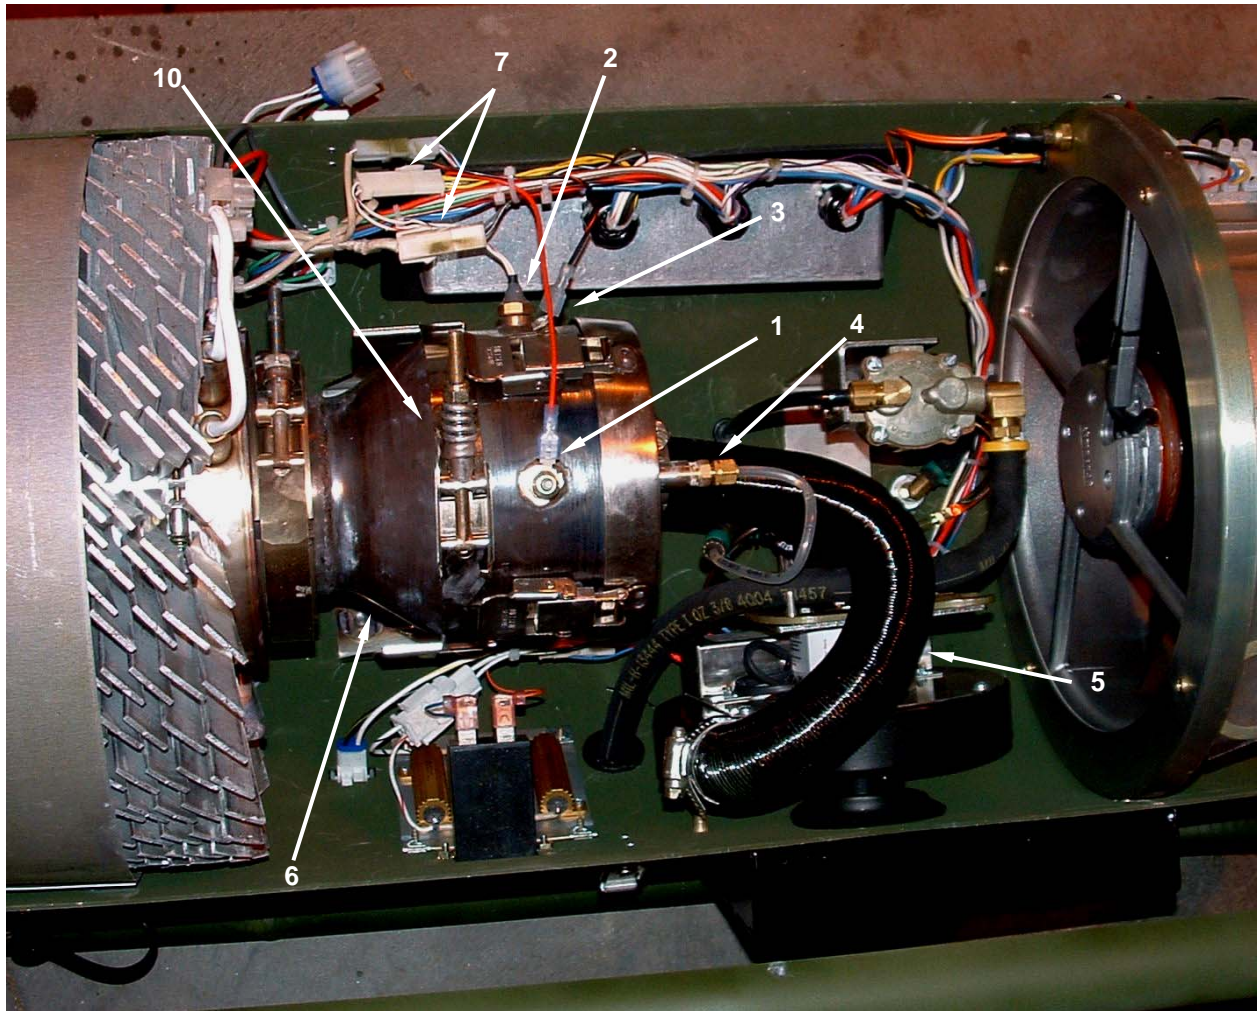

Figure 5. Replace Fin Temperature Sensor – Disassembly.
3. Tag and disconnect the glow plug (**Figure 5, Item 1**), flame sensor (**Figure 5, Item 2**), ground wire (**Figure 5, Item 3**), fuel line (**Figure 5, Item 4**), and combustion air blower duct (**Figure 5, Item 5**) from the burner assembly (**Figure 5, Item 6**).
4. Tag and disconnect the two TEG electrical connectors (**Figure 5, Items 7**).
5. Tag and disconnect the two wires (**Figure 5, Item 8**) going into the modular connector (**Figure 2, Item 9**) on the side of the TEG by loosening the two bottom screws. Do not loosen the top screws for the wires that enter the interior of the TEG.
6. Loosen the clamp (**Figure 5, Item 10**) retaining the burner assembly (**Figure 5, Item 6**) and lift the assembled burner, heat exchanger and TEG from the heater. Place on an appropriate work surface. Take care not to bend any of the fins on the TEG.